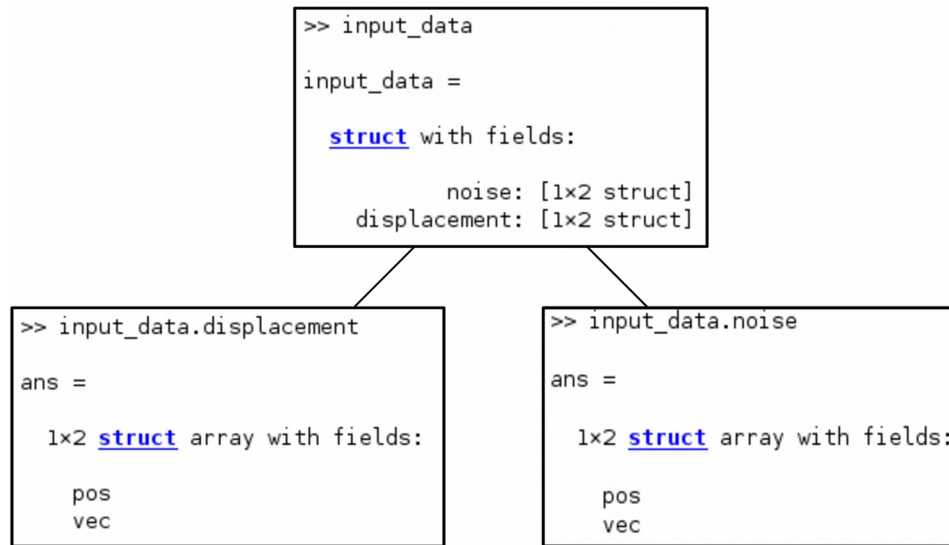

Figure 5. The structure of the input data.
- **An input file** containing measured gel displacements is required. Optionally, a sample of the measurement noise can also be provided for use with Bayesian regularization. The input file must contain a MATLAB structure with a defined format that is shown in Figure 5.